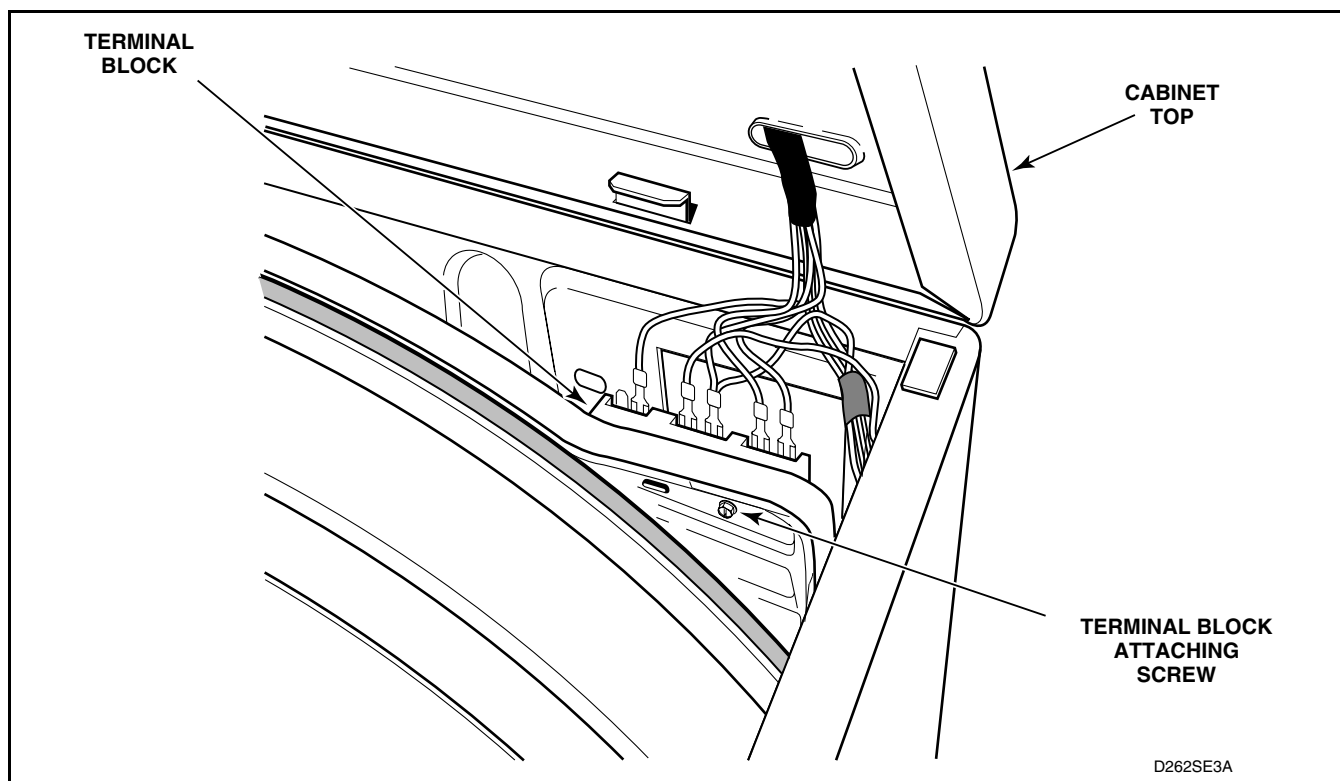

Figure 42
- (2) Remove all wires from terminal block. (Refer to appropriate wiring diagram when rewiring terminal block.)
- (3) Remove screw holding terminal block to rear bulkhead. Refer to *Figure 42*.
- (8) Remove screw holding terminal block to rear bulkhead. Refer to *Figure 42*.
- (4) Remove two screws from each rear cabinet top hold-down bracket. Refer to *Figure 42*.
- (5) Remove screw holding terminal block access plate to rear of dryer cabinet and remove plate.
- (6) Remove wire harness clips.
- (7) Remove locators and screws.